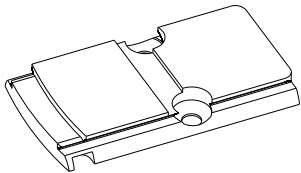

Fig 6-2
2. (Fig 6-2) Use the two included 6-32 T10 flat head screws to attach the mounting plate to an industry standard mounting interface. Tighten the screws to 15 in/lbs.